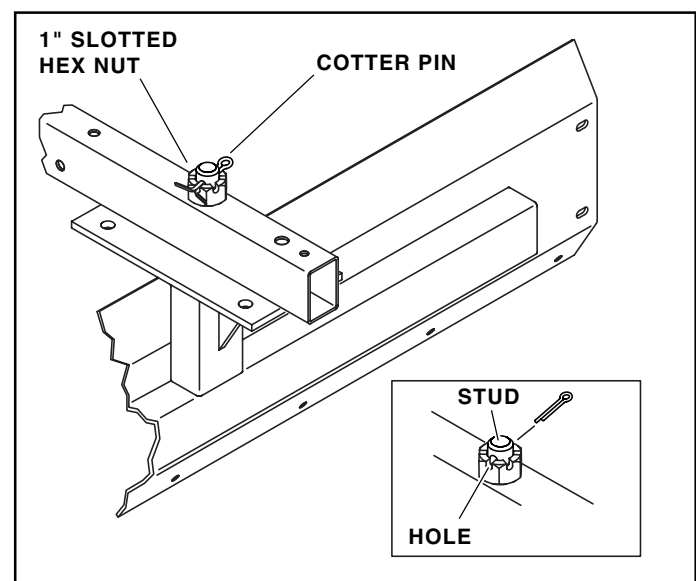

FIGURE 3
3. Back the slotted nut off until the first slot is aligned with the hole in the threaded stud or until the mast assembly can pivot on the blade assembly. Install a cotter pin through the hole in the stud. Then bend both ends of the cotter pin around the crown of the nut to secure the pin and nut. See figure 3.